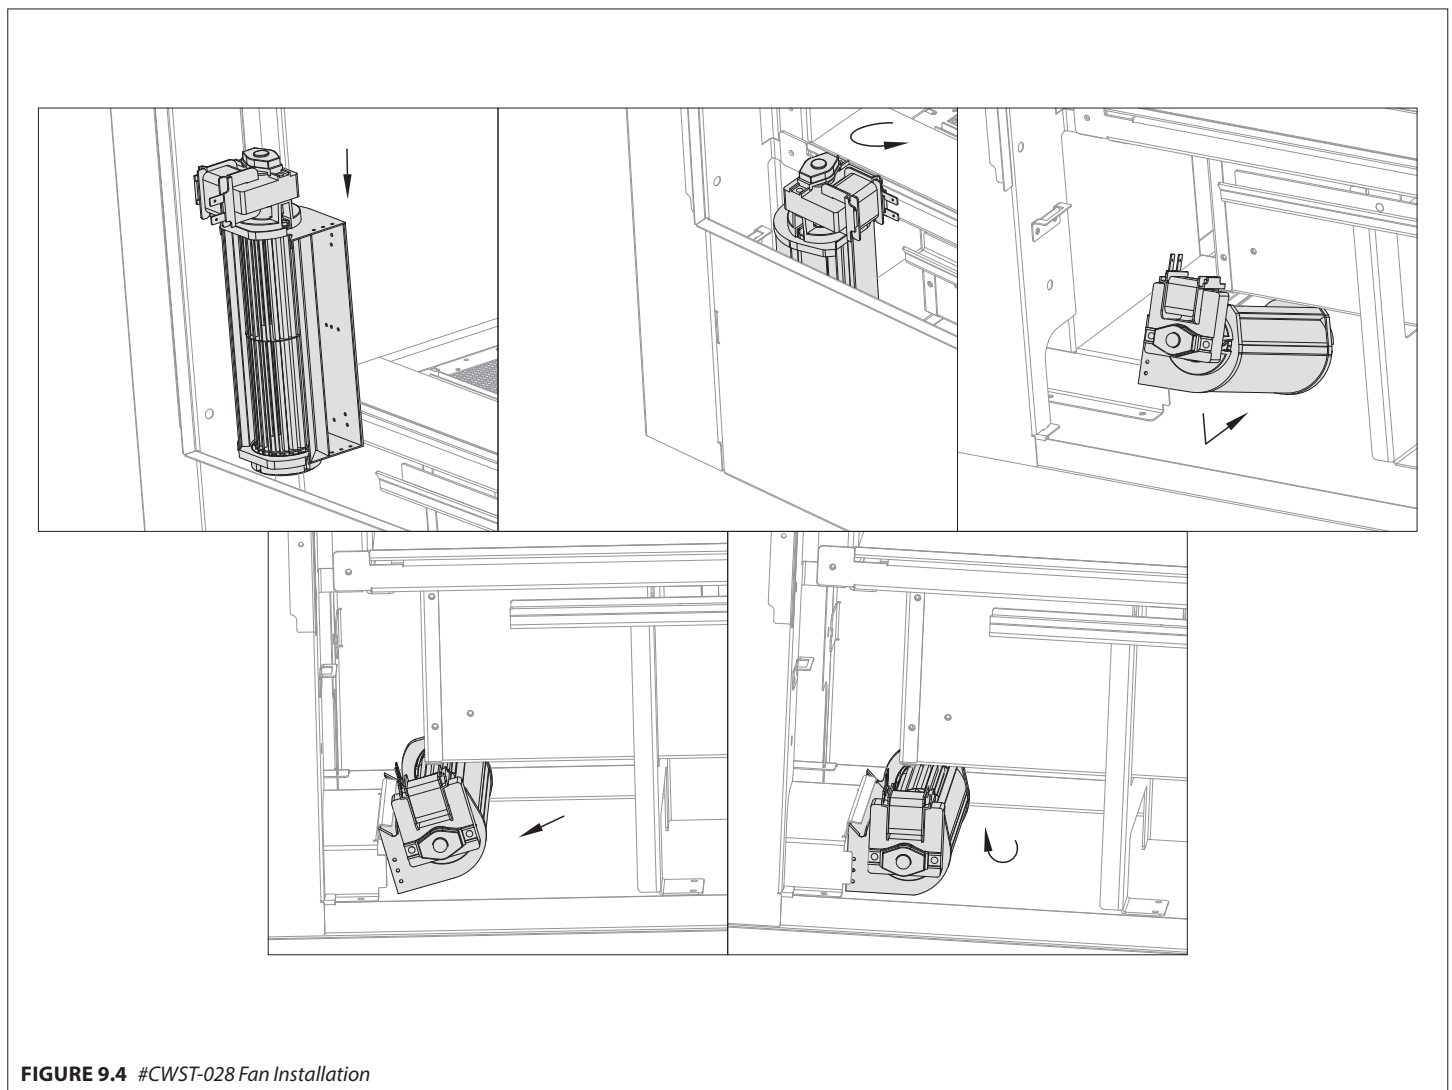

FIGURE 9.4 #CWST-028 Fan Installation
4. With the terminal end of the fan facing you and the fan terminals on the left, insert fan into chamber. See Figure 9.4.
7. Place the upper edge of the fan discharge under the edge of fireplace air channel opening. Rotate the fan up towards the edge to secure fan into place. See Figure 9.4. **DO NOT LET THE FAN REST ON ANY ELECTRICAL CORDS.**